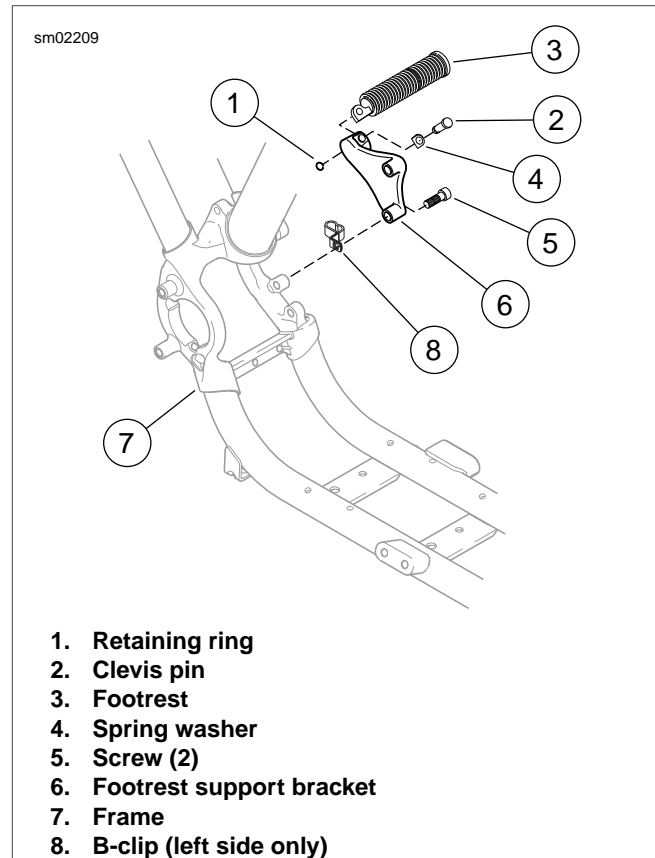

Figure 2-185. Passenger Footrest Assembly (Not Standard Equipment on Some Models)
1. See Figure 2-185. Remove retaining ring (1), clevis pin (2), footrest (3) and spring washer (4). Discard retaining ring.
2. Remove two screws (5) and footrest support bracket (6) from frame (7).
See Figure 2-185. On left side of vehicle, a B-clip (8) is positioned between footrest support bracket (6) and lower support bracket hole on frame (7). Make sure this clip is positioned between footrest support bracket and frame when attaching support bracket in the next step.
1. See Figure 2-185. Attach footrest support bracket (6) to frame (7) with two screws (5). Tighten to 45-50 ft-lbs (61-68 Nm).
2. Install footrest (3) on footrest support bracket with spring washer (4). Make sure spring washer is positioned inside support bracket mounting boss with the square edge toward the inside.
3. Align holes and push clevis pin (2) from top down through hole in support bracket. Secure with **new** retaining ring (1).